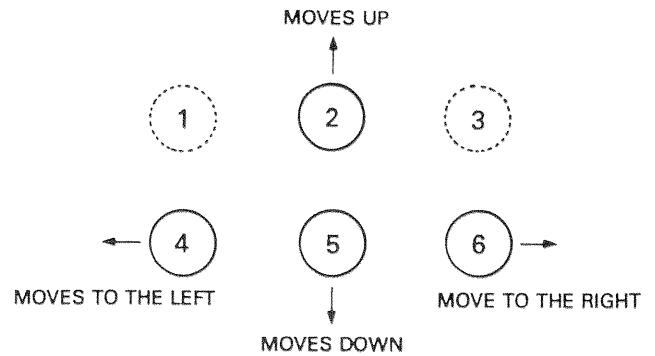

Fig. 2
1. Turn off TV and connect jig as shown in Figure 2. Adjust jig fully counter-clockwise for minimum resistance.